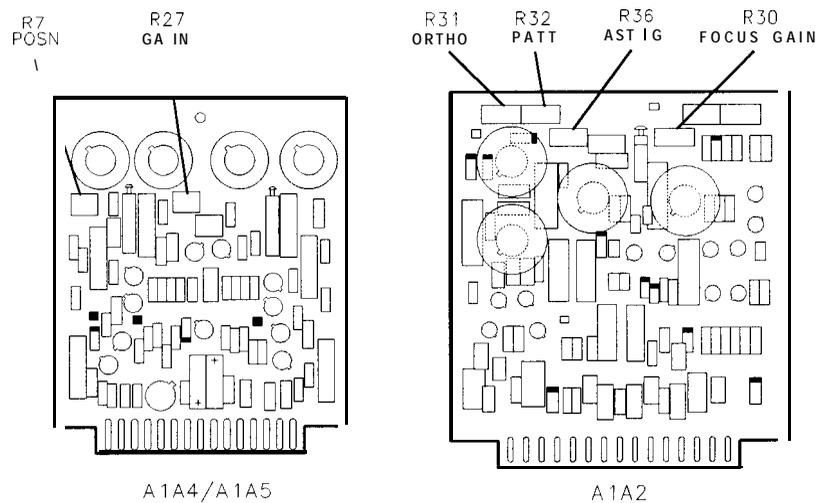

Figure 3-30.
1. With the spectrum analyzer LINE switch set to STANDBY, set the potentiometers listed in Table 3-5 as indicated. See Figure 3-30 for the location of the adjustments.